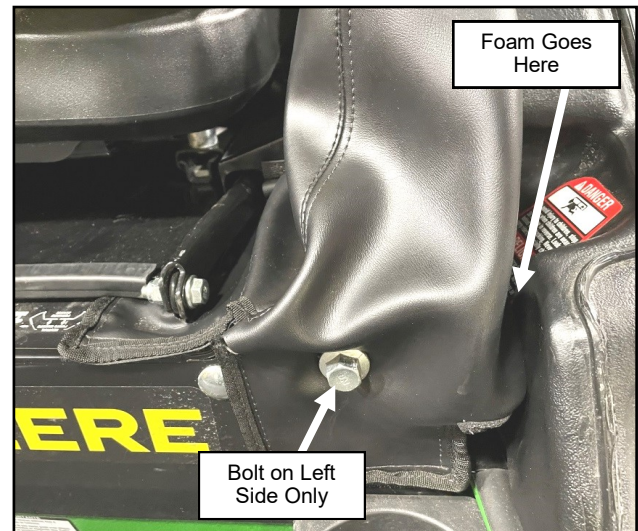

Fig. 2.26 (Install Left Filler, Outside)
- 2.25** Slide the supplied right hand drive handle boot down over the drive handles. (The right filler does not have the hole shown in Figure 2.26)
Slide the hole in the left boot over the head of the adjustment bolt as shown in Figure 2.26 upon installation.